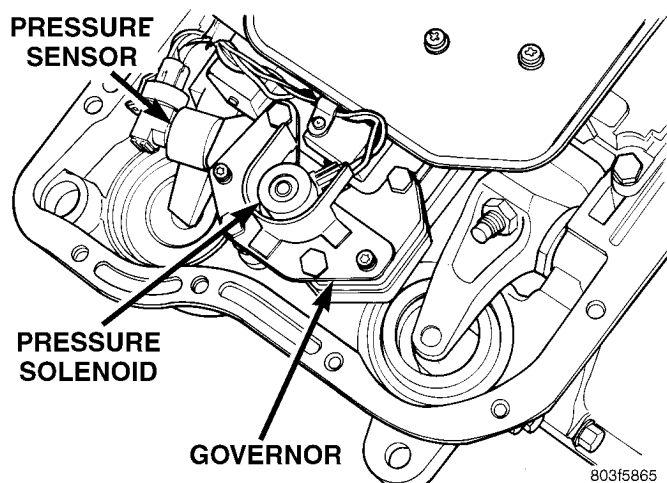

Fig. 41 Governor Pressure Solenoid And Sensor Wire Locations
- (1) Remove fluid filter.
- (2) Disconnect wires from governor pressure sensor and solenoid (Fig. 41).